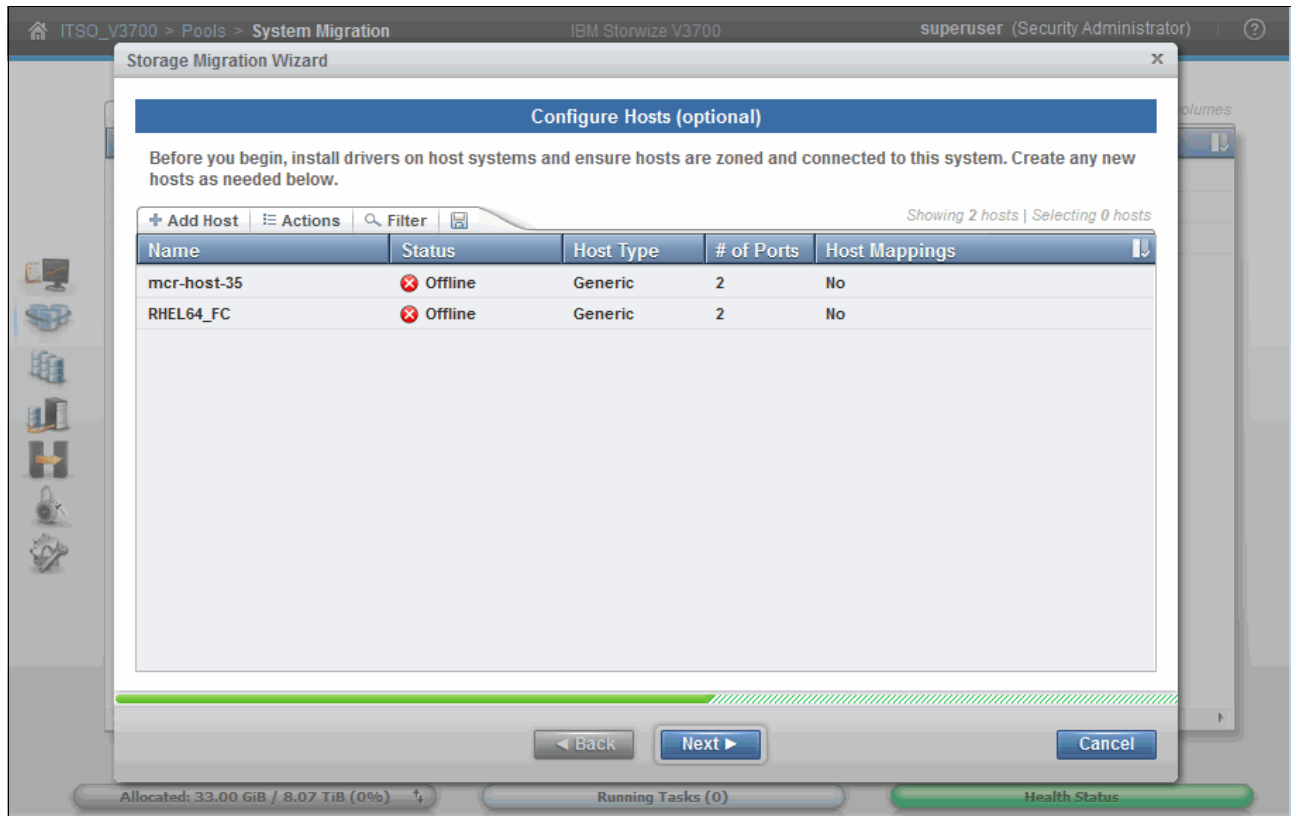

Figure 6-45 Configure hosts pane
1. Figure 6-45 shows the Configure Hosts pane. In this example scenario, there is no host definition for the Windows 2012 host, so define one at this stage.
If hosts are already defined they show up listed in the pane, as shown in Figure 6-45.